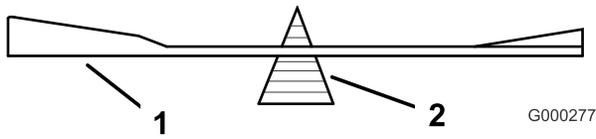

Figure 52
2. Check the balance of the blade by putting it on a blade balancer (Figure 52). If the blade stays in a
horizontal position, the blade is balanced and can be used. If the blade is not balanced, file some metal off the end of the sail area only (Figure 52). Repeat this procedure until the blade is balanced.